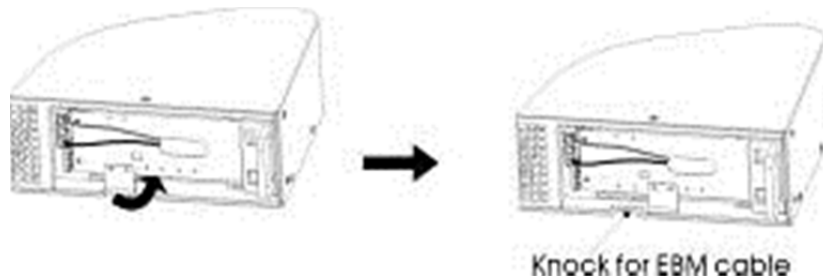

Figure 9 Removing the UPS Cable Knockout
- b) On the bottom of the UPS front cover, remove the EBP cable knockout (see Figure 9).